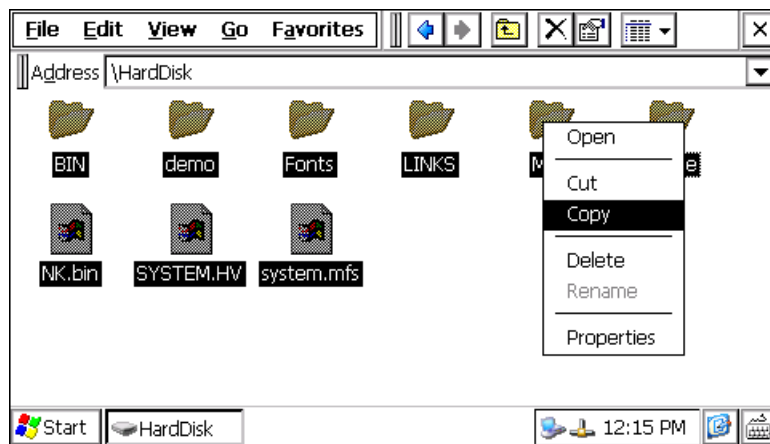

Figure 56
4. Use Windows Explorer to select and copy all of the files from *\HardDisk* and paste to *\USBHardDisk*. Figure 56 illustrates the select and copy operation.